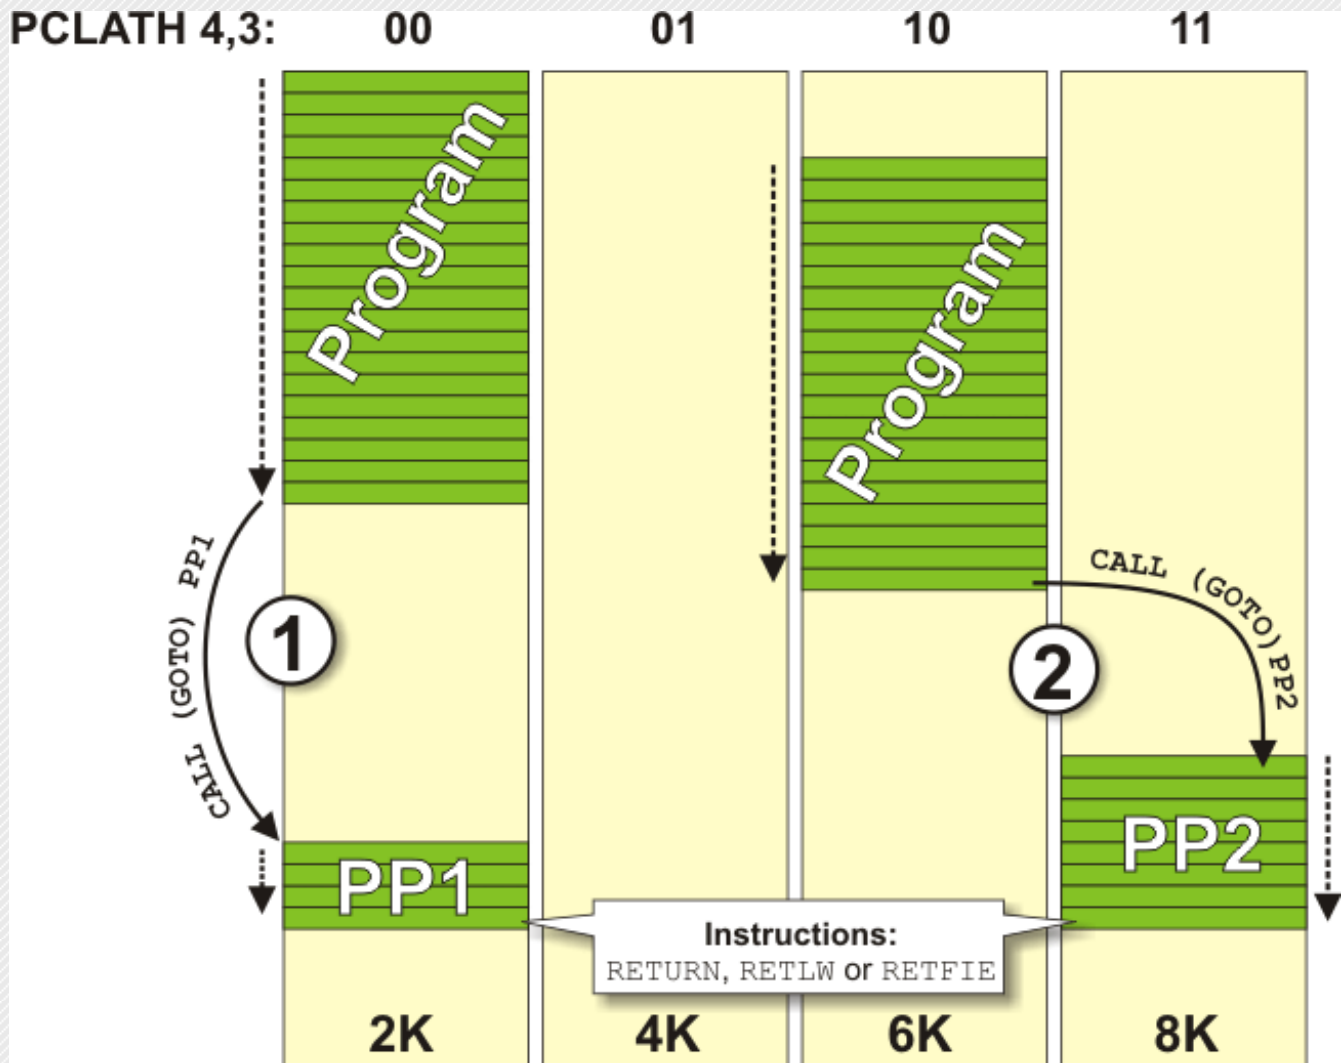

Fig. 2-17 PCLATH Registers
- On subroutine call or jump execution (instructions **CALL** and **GOTO**), the microcontroller is able to provide only 11-bit addressing. For this reason, similar to RAM which is divided in “banks”, ROM is divided in four “pages” in size of 2K each. Such instructions are executed within these pages without any problems. Simply, since the processor is provided with 11-bit address from the program, it is able to address any location within 2KB. Figure 2-17 below illustrates this situation as a jump to the subroutine PP1 address.
However, if a subroutine or jump address are not within the same page as the location from where the jump is, two “missing”- higher bits should be provided by writing to the PCLATH register. It is illustrated in figure 2-17 below as a